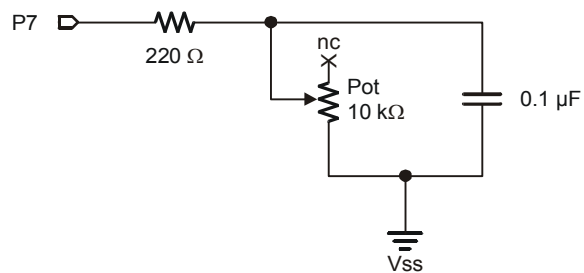
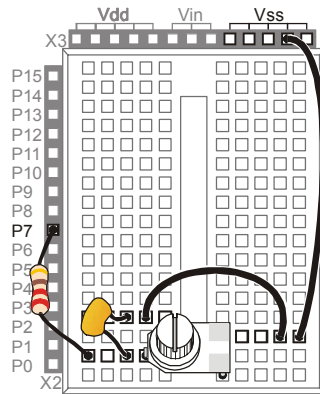

Figure 5-11
Figure 5-12
Figure 5-11 shows a schematic for the fast RC-time circuit, and Figure 5-12 shows the wiring diagram. This is the circuit that you will use to monitor the position of the potentiometer's input shaft with the help of the BASIC Stamp and a PBASIC program.
√ Build the circuit shown in Figure 5-11.
- ✓ Leave your potentiometer RC-time circuit from Activity #3 on your prototyping area. If you need to rebuild it, use Figure 5-11 on page 146 and Figure 5-12 on page 147. Make sure to use the 0.1 μ F capacitor, not the 0.01 μ F capacitor.